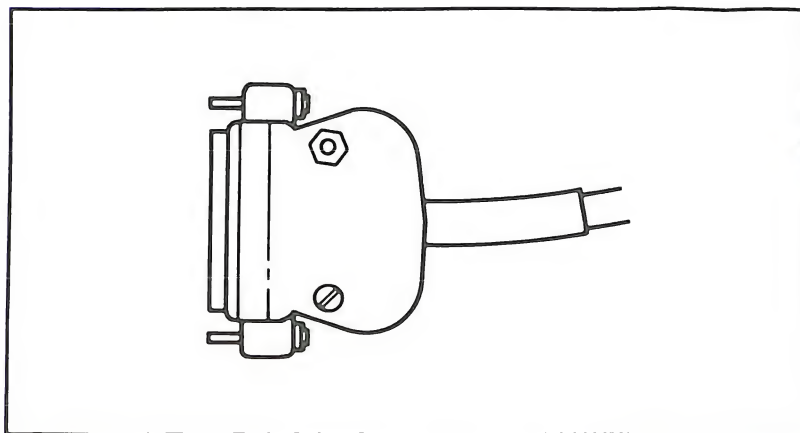

Figure B-6. RS-232-C Cable
- b. Look at the cable hooked up to your printer. If it is an RS-232-C cable (pictured in Figure B-6), touch the SERIAL DEVICE function label (☐12) until the asterisk (*) appears, or press the corresponding function key.